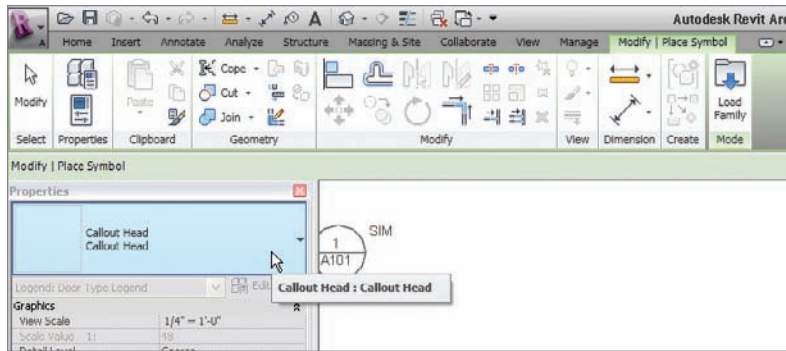

FIGURE 11.47 Placing the callout head
6. In the Properties dialog, select Callout Head, as shown in Figure 11.47.
7. Place the callout head into the view, as shown in Figure 11.47.